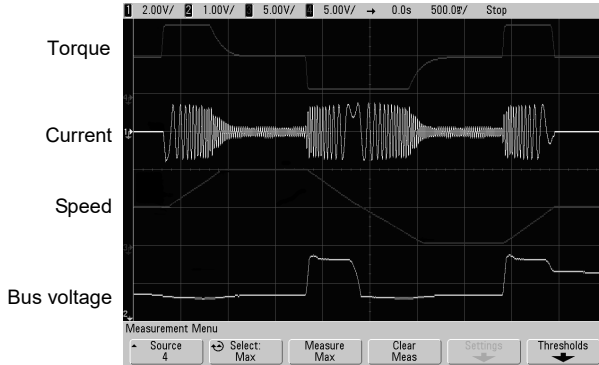

Figure 1 Quick acceleration/deceleration four-quadrant running in the form of 0Hz
- ◆ Figure 1 indicates the four-quadrant running of the motor in speed sensor-less vector control. The torque, current, speed and DC bus voltage have quick response to ensure the stable running of the motor.